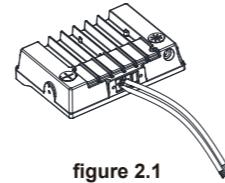

figure 2.1
Step 1: Take the lamp out of package; (figure 2.1)